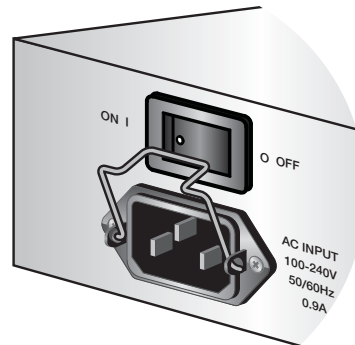

Figure 31. Power cord retaining clip in the up position
1. Position the power cord retaining clip in the up position, as shown in Figure 31.